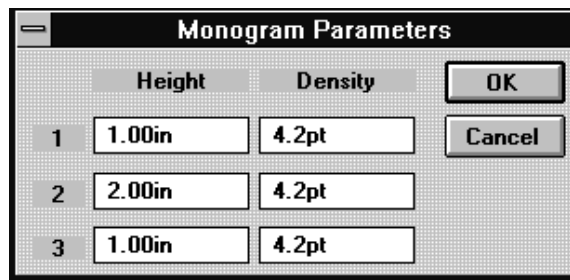

Figure 6-5
4. Click on Monogram in the upper right quadrant of the Text dialog box, and the Monogram Parameters dialog box displays (Figure 6-5). The numbers 1, 2 and 3 refer to the letters in a monogram. Set number 2, the middle letter, at a height of 2.0 inches. Change the density, if so desired.